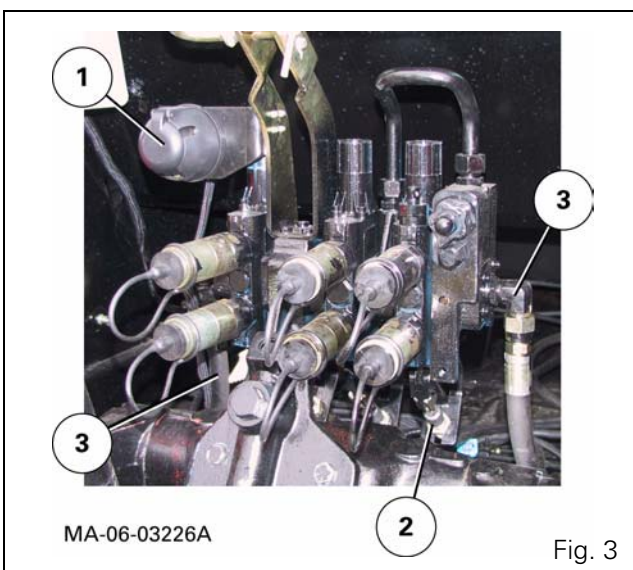
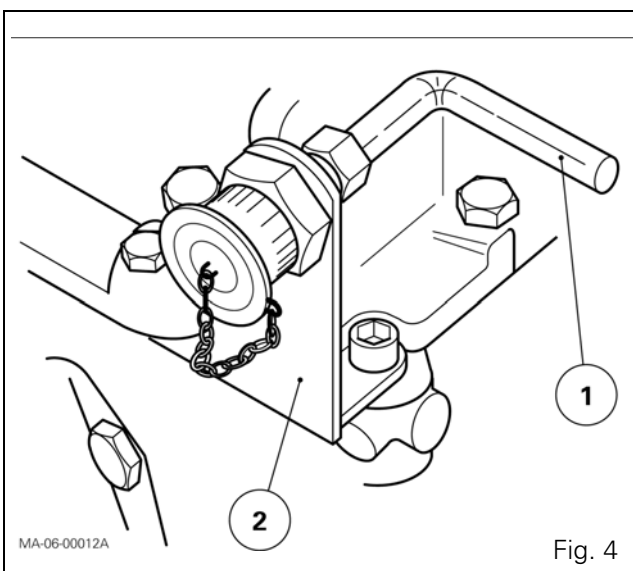

Fig. 3
Fig. 4
1. Remove (Fig. 3):
- the trailer electronic connector (1),
- the spool valve control cables (2),
- the hydraulic unions connected to the spool valves (3),
- the trailer brake take-off and its support, by loosening the unions at both ends (Fig. 4),